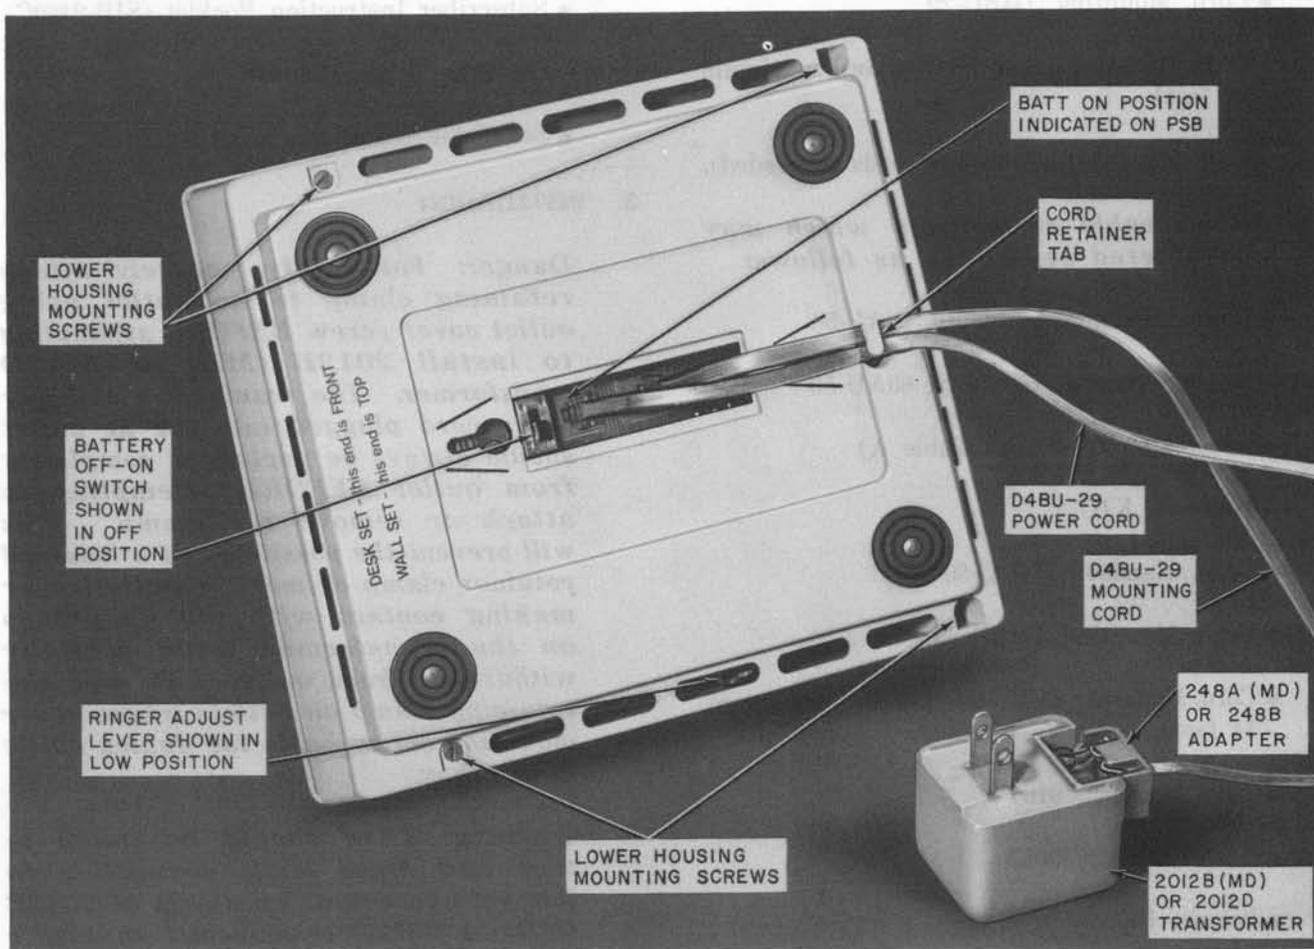

Fig. 2—960A01M Telephone Set, Bottom View
- Battery OFF-ON switch (located on the bottom of the set, Fig. 2), should be in the OFF position when set is not in service.
(4) All components listed in (c) Replaceable Components except faceplate and D4BU-29 cords.
3.04 Attach 248A (MD) or 248B adapter to 2012B (MD) or 2012D transformer (Fig. 2) and plug into 110-117 volt ac outlet not controlled by a switch (continuous ac power is required). Plug one end of the D4BU-29 cord (maximum 14 feet) into the power jack on the bottom of the set (Fig. 15C) and the other end into the 248A or 248B adapter attached to the transformer.
3.06 The set is shipped from the factory with the battery switch in the OFF position. After all wiring changes and modifications have been completed, tilt the set up and move the battery switch arm (visible in the bottom view of the set, Fig. 2) to the ON position.
Note: The switch ON position is indicated on the bottom of the printed wiring board (Fig. 2), and if switch is not placed in ON position, the set will not record or automatically dial.
Note: Dress all cords under retainer tab at bottom rear of housing, Fig. 2.